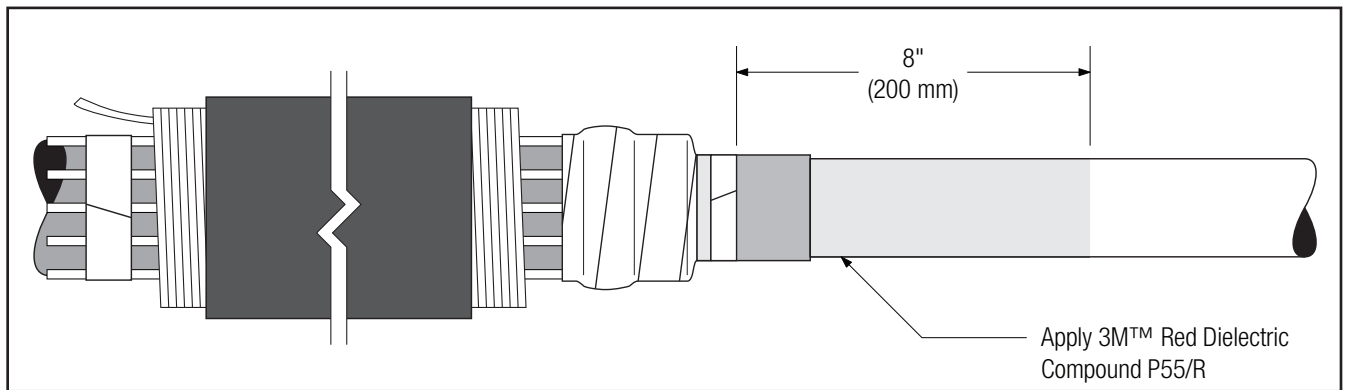

Figure 7
2.7 Apply 1 tube 3M™ Red Dielectric Compound P55/R starting at marker tape and continuing onto the cable insulation for approximately 8" (200 mm). (Figure 7)